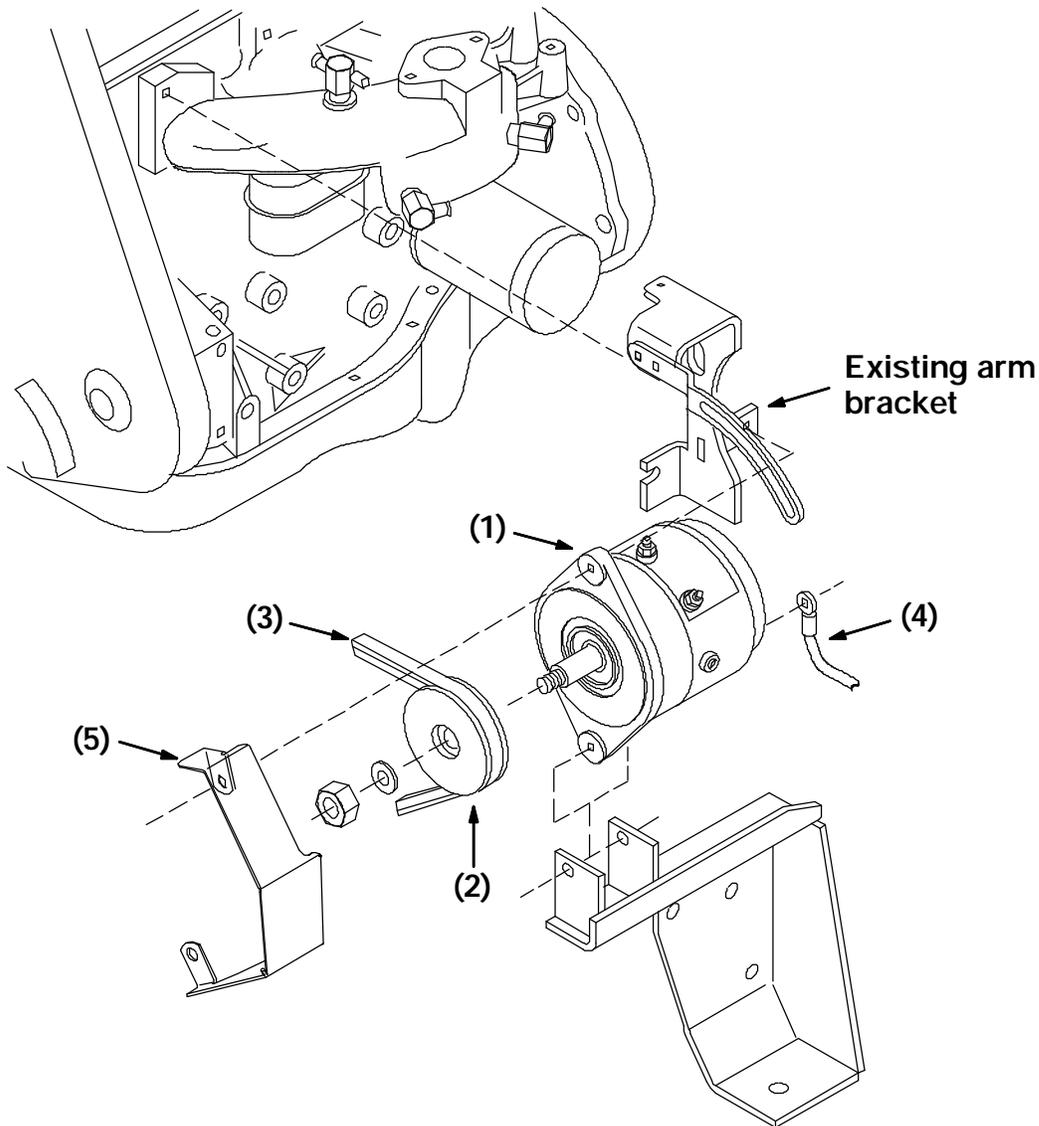

FIG. 1 - Alternator Assembly (Gas/LP machines only)
(Refer to FIG. 1 and 2)
11. Install the new sheave (2) onto the new alternator (1). (Refer to FIG. 1 and 2)
12. Position the new alternator (1) and new belt guard (5) onto the lower mount bracket on the engine. Reinstall the lower bolt, steel sleeve (Diesel only), and nut. Leave loose for now. (Refer to FIG. 1 and 2)
13. Reinstall the upper bolt and nut through the new arm (8) (Diesel only) and new alternator (1). Leave loose for now. (Refer to FIG. 1 and 2)
14. Install the new V-belt (3) onto the three sheaves. Pull the alternator away from the engine until the V-belt is tight. Tighten both alternator mount bolts and the bolt that attaches the arm (8) (Diesel only) to the engine block. (Refer to FIG. 1 and 2)
15. Install the new ground wire (4) onto the back of the new alternator (1) and down to a ground stud on the engine. (Refer to FIG. 1 and 2)